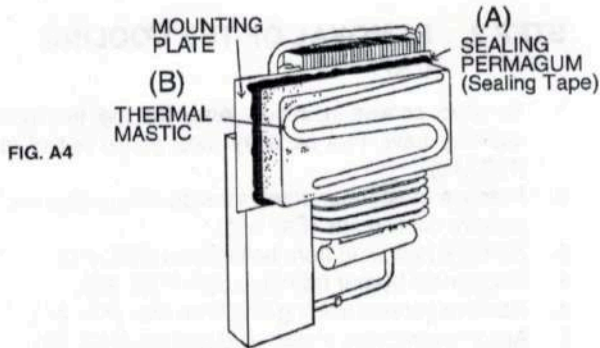

FIG. A4
2. Apply thermal mastic on the evaporator coil (B; FIG. A4).
3. Apply sealing permagum or sealing tape on mounting plate (A; FIG. A4).